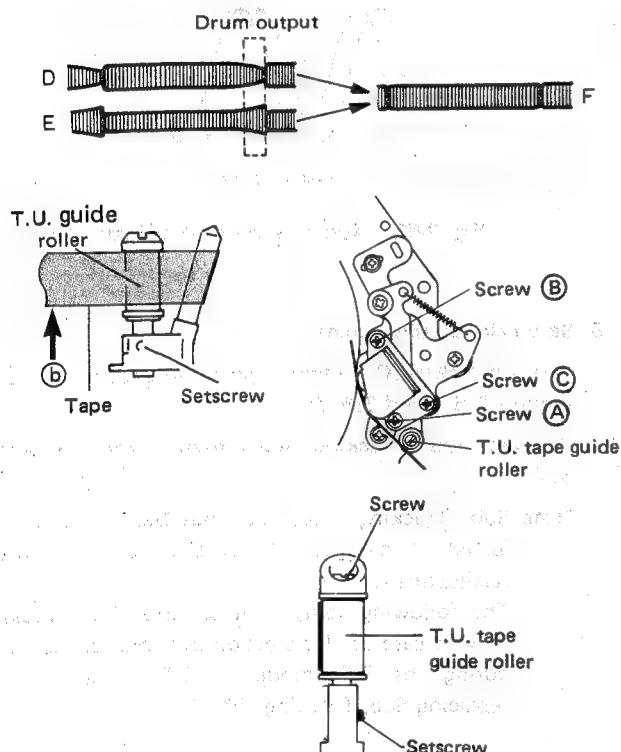

Fig. 2-46 Drum output adjustment
7. In the same manner as for the drum input, turn the take-up guide roller to adjust the decay portion (drum output portion) of the FM waveform. Incorrect examples are shown by D and E in Fig. 2-46, while F indicates the correct adjustment.
8. Observe the top edge of the tape travels along the lower face of the upper flange and check the waveform does not fluctuate as the tape is lightly pushed up at point (b) as shown in Fig. 2-46.